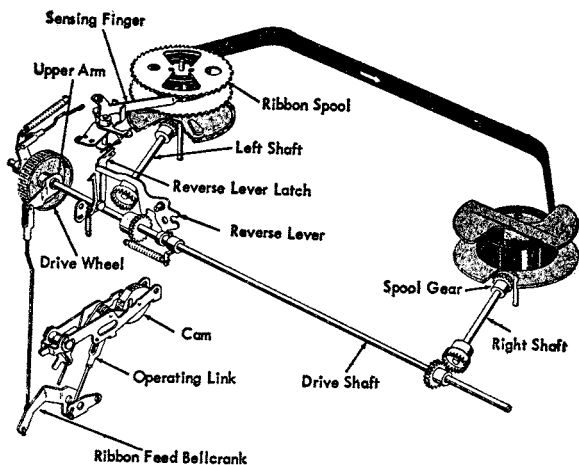

Figure 36. Ribbon Feed, Right Spool Driving
An operating link from the ribbon cam connects to a bellcrank which in turn operates the ribbon feed-link and upper-arm assembly (Figure 36). Rotation of the upper arm causes the inside spring-clutch to tighten about a hub on the plastic drive-wheel, rotating the wheel and the drive shaft to which it is connected. Gears connected to the drive shaft transfer this rotation to the ribbon spools. The lateral position of the shaft controls which gears will be engaged and which ribbon spool will feed.
**2. SPOOL GEARS.** Position the spool gears on the left-hand and right-hand drive shafts for minimum backlash without binding (Figure 36).